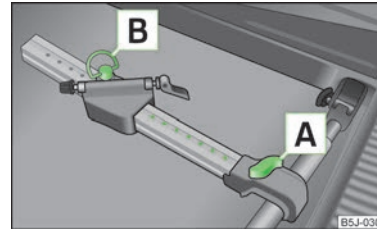

Fig. 54
- > Remove the screw **[A]** » Fig. 54 a little and push the frame side rail (alu-part) towards the cross member until the socket latches.
- Undo the screw [A] » Fig. 54 on page 57 and push the bicycle carrier to the left together with the fastened bicycle to prevent a collision between the steering wheel and the side window of the luggage compartment.